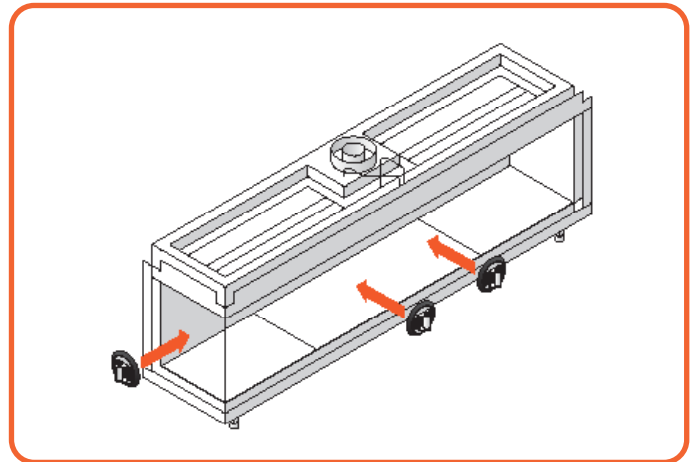

Figure 10.12 - Apply suction cups
- Put the suction cup on the glass and make sure it is properly vacuumed, so it will not come off. Use two suction cups for the large front glass. (See **Figure 10.12**)